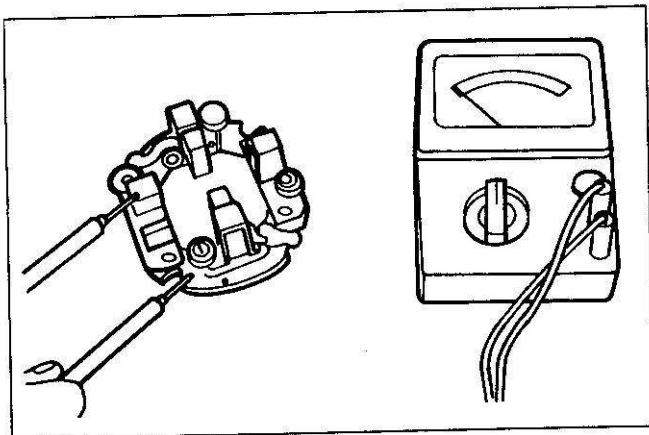

Figure 32. Checking Brush Holder for Grounds
- Touch one probe of the ohmmeter or self-powered test light across the insulated brush holder positive (+) side and the other probe to the grounded brush holder negative (-) side. If the light lights or continuity is indicated at the ohmmeter, the brush holder is grounded and must be replaced (figure 32).